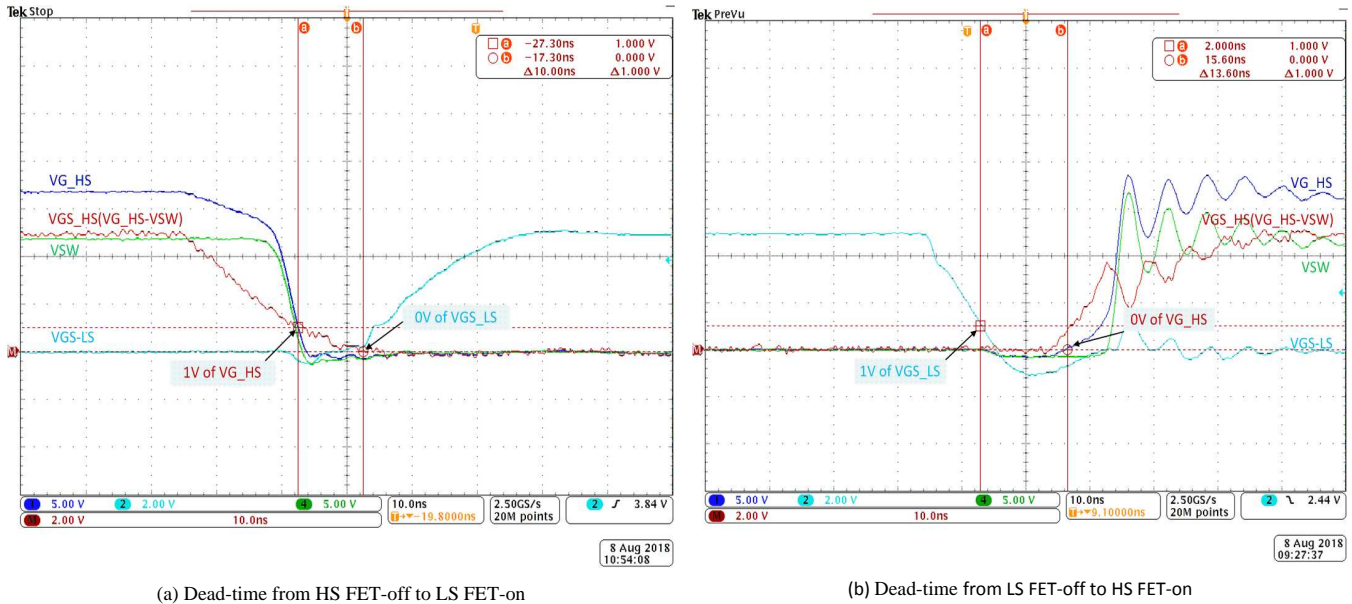

Figure 8. Dead-time Measurement Follows Design
1. Cursors locate at detection threshold of HS FET and LS FET, Dead-time measurement follows design, from HS FET-off to LS FET-on is 10 ns and from LS FET-off to HS FET-on is 13.6 ns. (See Figure 8)